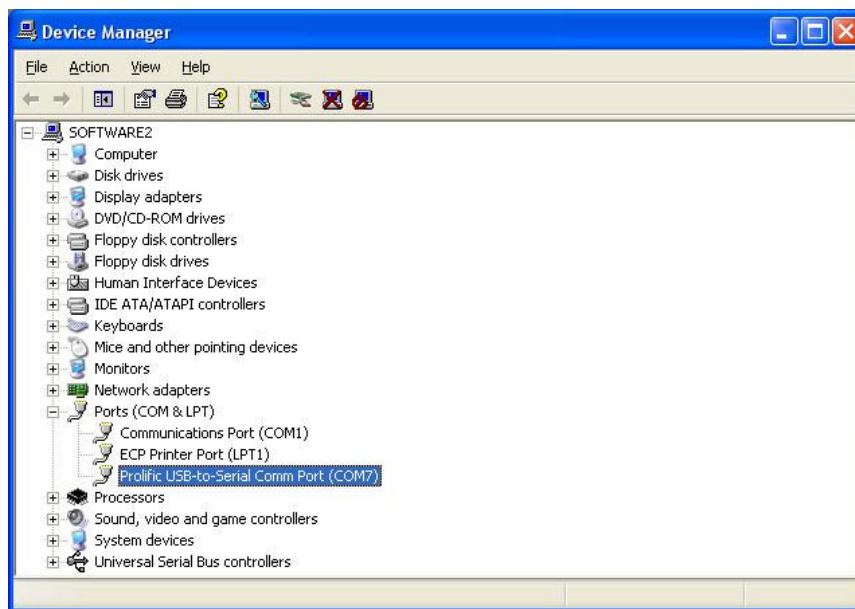

Figure 33
Step 4: Select Ports(COM & LPT) from the list displayed in device manager as shown in Figure 33 and note the com port for the Blade Profiler.